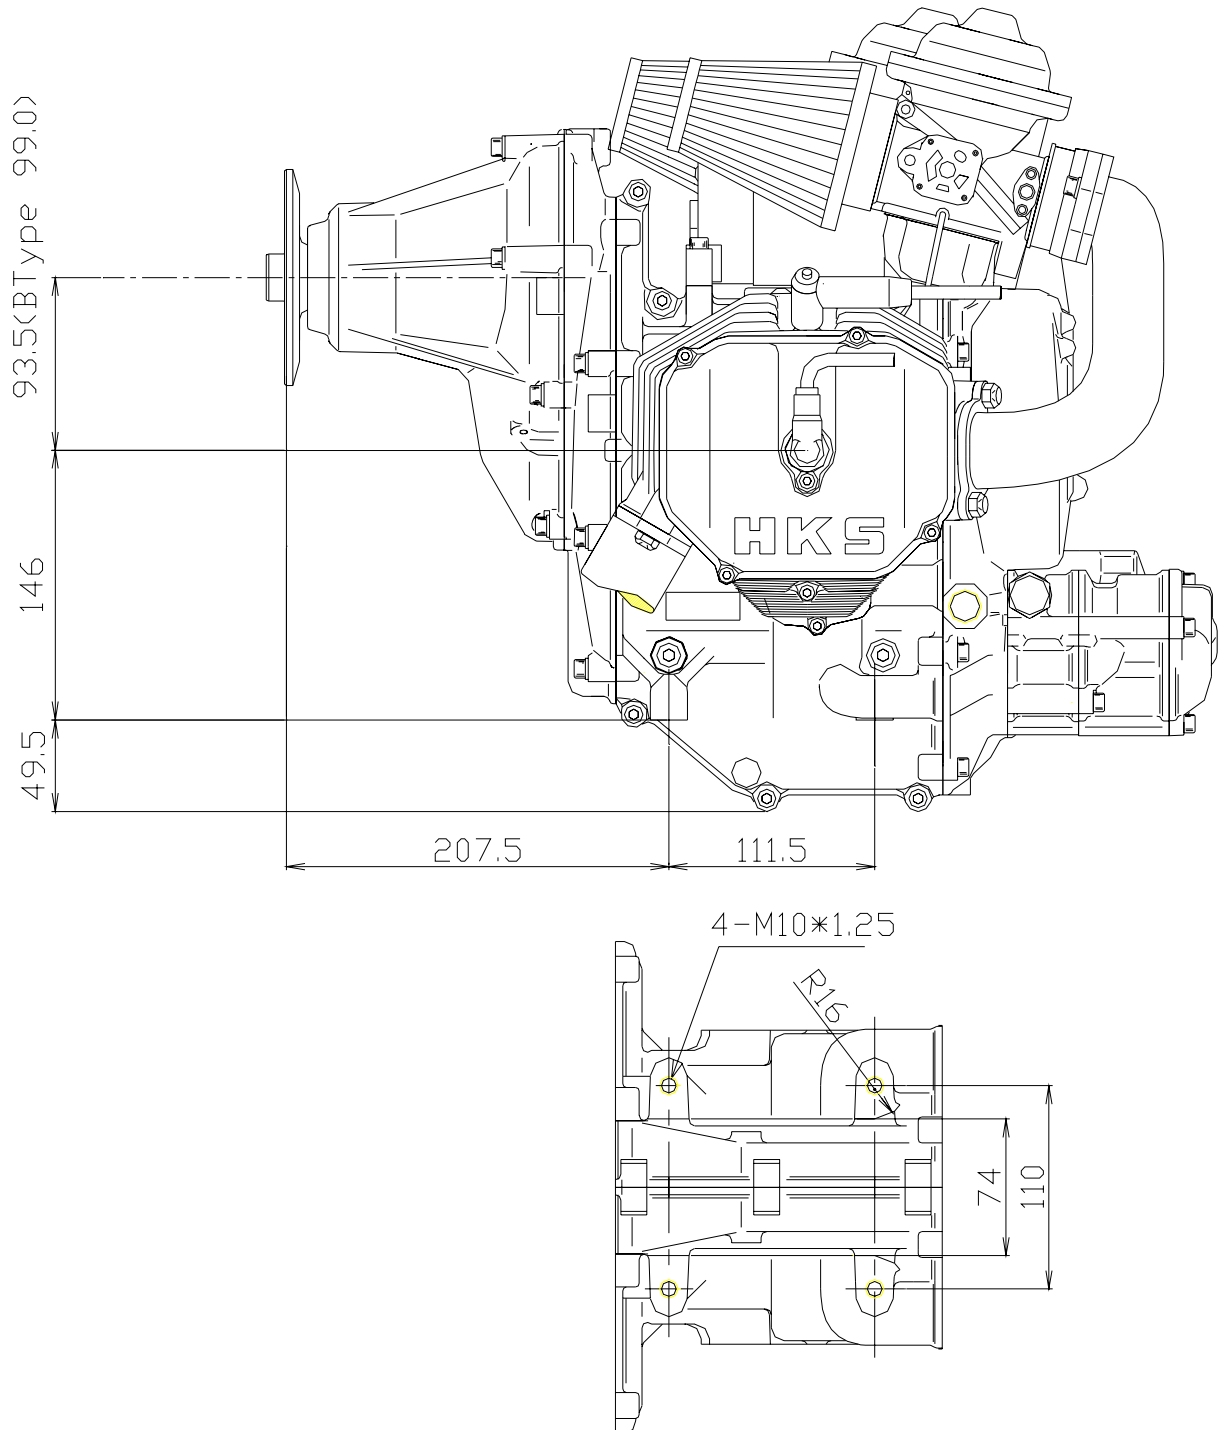

Fig.1 Engine mount Dimensions
- Refer to Fig.1 for the engine mount dimensions.